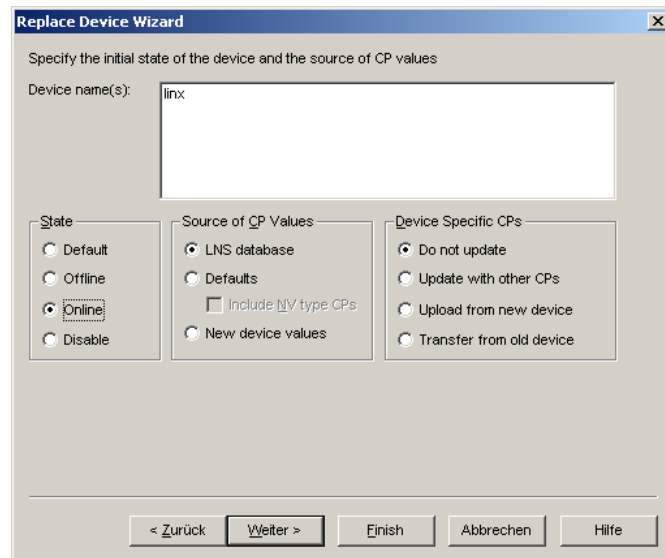

Figure 117: Select online state.
5. Then select **Online** as shown in Figure 117 and click **Next**.